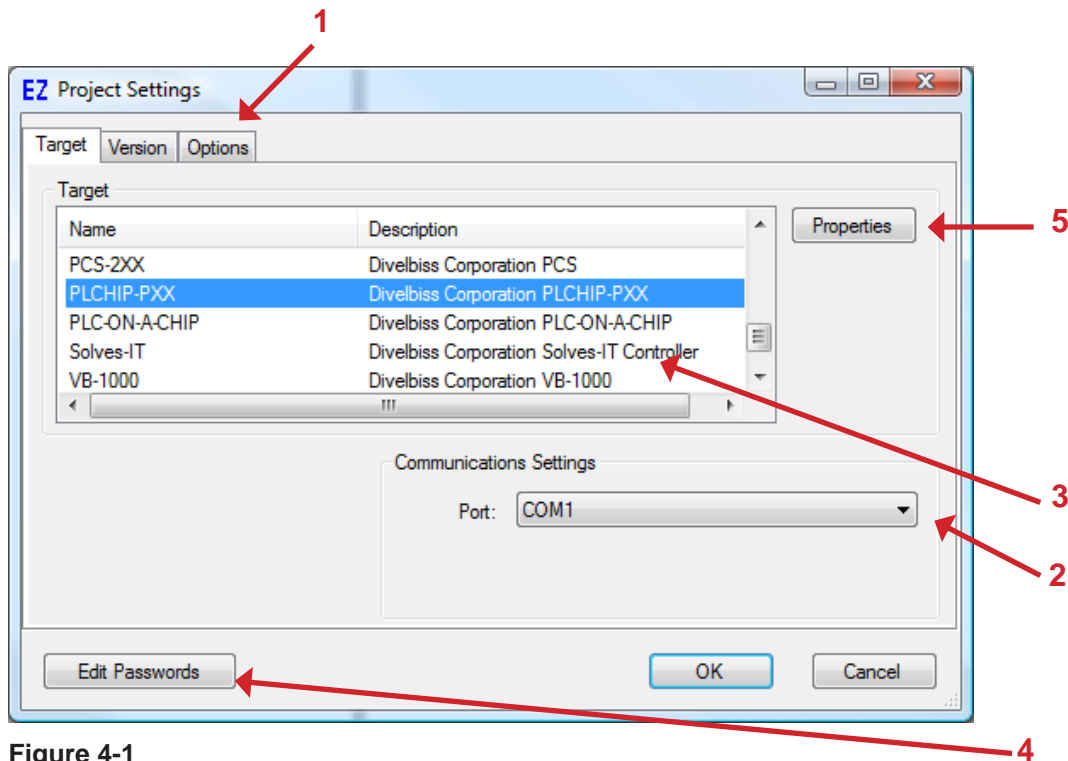
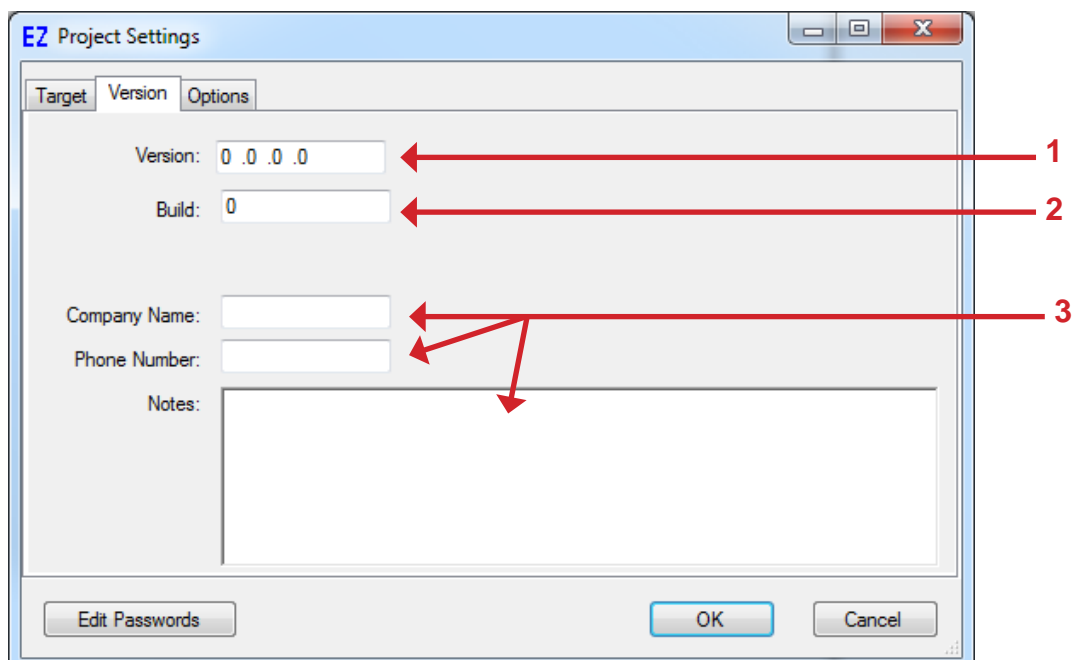
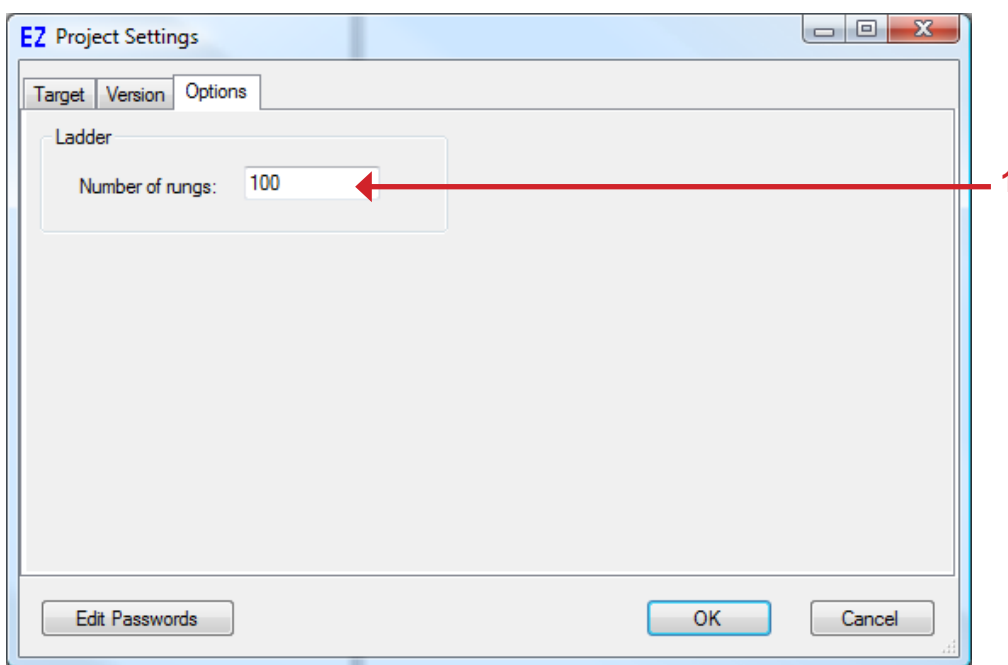

Figure 4-1
Figure 4-2
Figure 4-3
To select the target, either try to place a ladder diagram object in the workspace or use the **Project Menu** and click **Settings**. The Project Settings Window / Dialog box will open. Figure 4-1 is an example of the Project Settings Window and identifies the main components of it.
1. **Project Setting Tabs:** Select the appropriate tab to configure target settings. Figure 4-1 represents the **TARGET** tab, Figure 4-2 represents the **VERSION** tab, and Figure 4-3 represents the **OPTIONS** tab. Clicking on a tab selects the tab for viewing.
The Version Tab will display the current build and version of the ladder diagram that is currently active in the EZ LADDER Toolkit. The build and version information is useful when determining if a program version is current. Figure 4-2 shows the Version settings tab of the Project Setting Window. Version setting may be changed in this window, if required.
The Options Tab will display the currently selected options and preferences. Some of these options are target specific while others are standard. Figure 4-3 shows the Options settings dialog box.